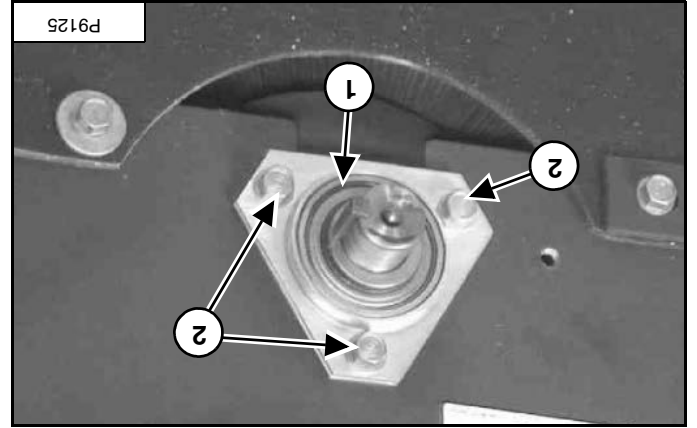

Figure 123
Remove the square key (item 1) and the bolts (item 2) [Figure 123] from the bearing mounting flange (both ends):